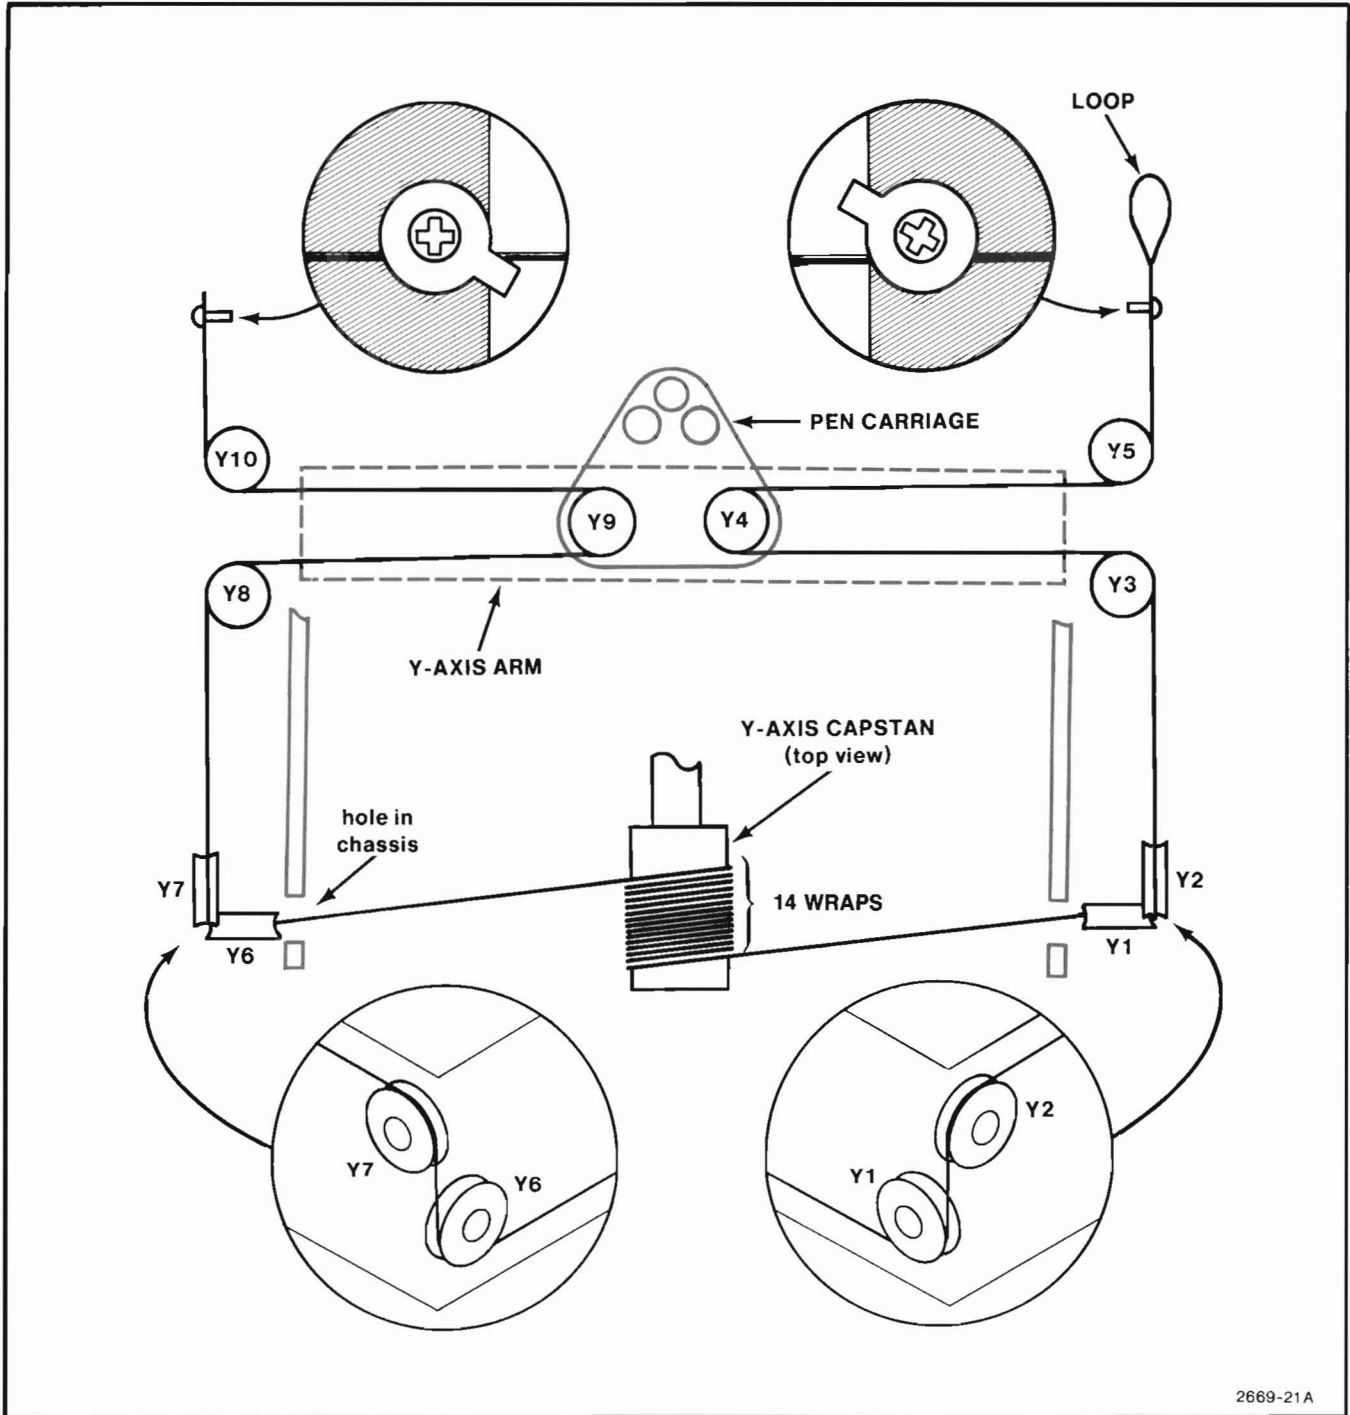

Figure 3-5. Y-Axis Cable Diagram.
6. Thread the end of the cable (which was just wound 17 turns CW) through a hole in the chassis and around pulleys Y1, Y2, and Y3 (see Figure 3-5).
9. Thread the cable around Y5 and run the cable between the tab washer and the flat washer (under the tab and over the screw). Then, tighten the cable tie-down screw (see inset on Figure 3-5).
13. Pass the other end of the cable to the left (as shown in Figure 3-5) through the hole in the chassis (behind the media advance motor, if present), and around Y6, Y7, and Y8. It may be helpful to tape the wraps on the capstan at this point.
17. If the cable does not have a loop on the end, tie a loop (Bowline knot preferred) on either end of the Y-axis cable (as shown in Figure 3-5). The loop, however, may be tied on the other end of the cable at the other cable tie-down screw, if desired.